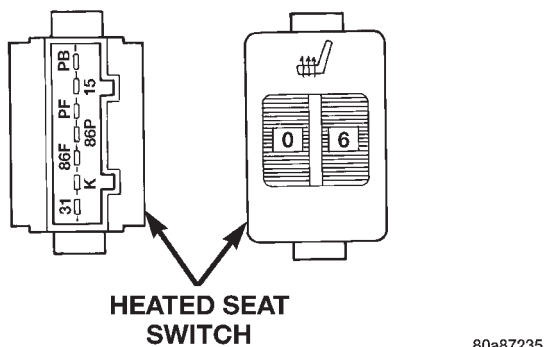

Fig. 1 Heated Seat Switch
(1) Remove the heated seat switch as described in this group and inspect connector for damage. Unplug the 7-way connector from the switch and check the harness terminals for ignition voltage and ground.
(2) Check the drivers switch for resistance between pin terminals PB and 86B. Resistance should vary from 0–500 ohms as the switch is rotated (Fig. 1). If OK, go to Step 3. If not OK, replace the heated seat switch.
(3) Check the passenger switch for resistance between pin terminals PF and 86F. Resistance should vary from 0–500 ohms as the switch is rotated (Fig. 1). If OK, test heated seat control module as described in this group. If not OK, replace the heated seat switch.